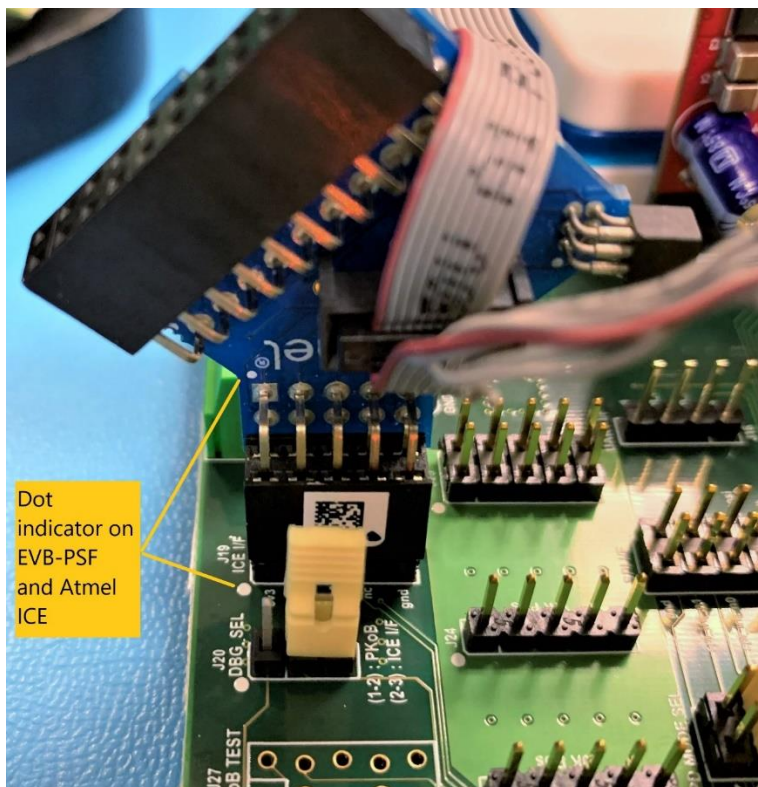

Figure 5.3 Connecting Atmel-ICE Debugger to J19
4. Connect one end of Atmel ICE to PC using USB Micro-B cable and the other end to J19 of EVB-PSF. A dot (encircled in image) will be present in Atmel ICE Adapter board which gives an indication that this pin should be connected to 3v3 of J19. Refer Fig 5.3,